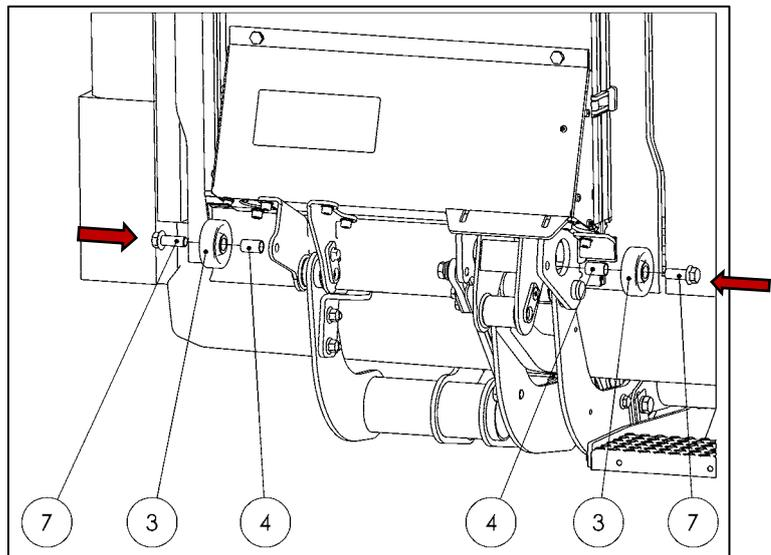

Figure 61
- Remove the flange screws (7), bushings (4), and ground rollers (3) from the accessories kit (see Fig. 61).